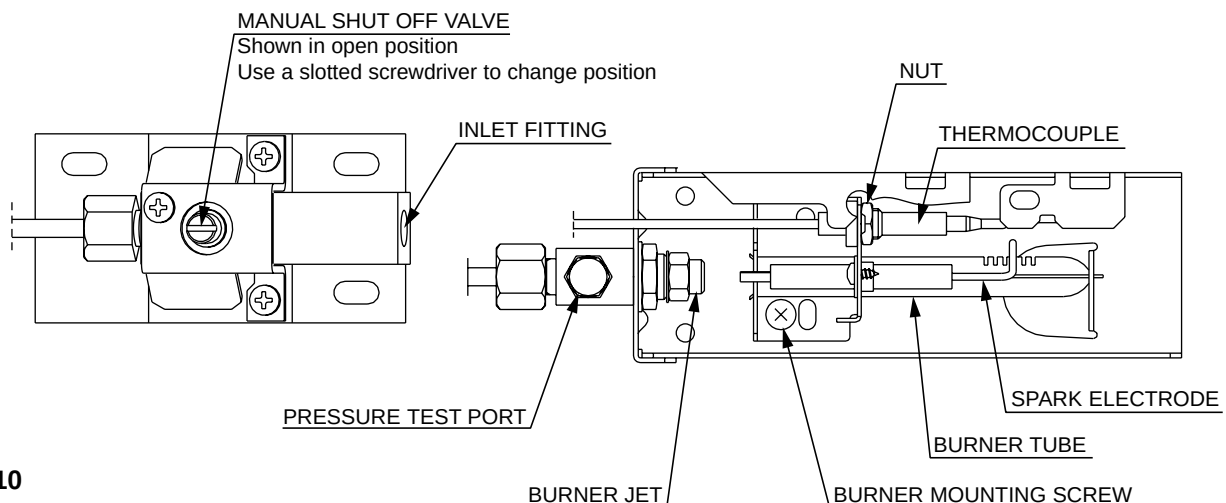

FIG. 10
- C. The LP gas pressure should be checked and the main regulator readjusted if pressure is incorrect. The correct operating pressure is 2,7 kPa. The correct place to take the LP gas pressure is at the test port just ahead of the burner jet. (See FIG. 10).
6. Remove the burner mounting screw and remove the burner assembly. (See FIG. 10).
Set main regulator so pressure does not drop below 2,7 kPa at pressure test port. (See FIG. 10).